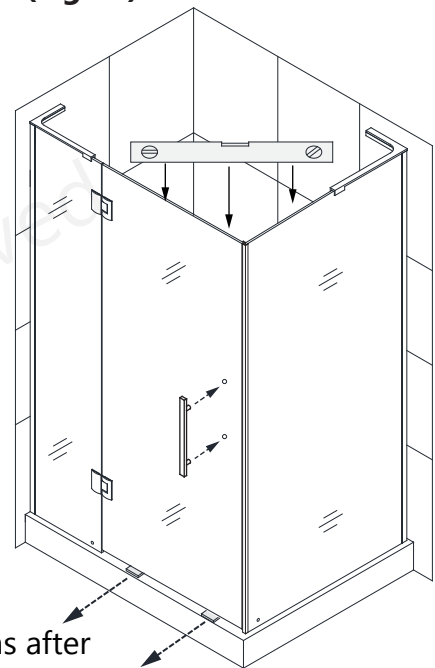

Fig 12
12. Remove the shims from beneath the door glass. Check the door for level and plumb. (Fig 12)**